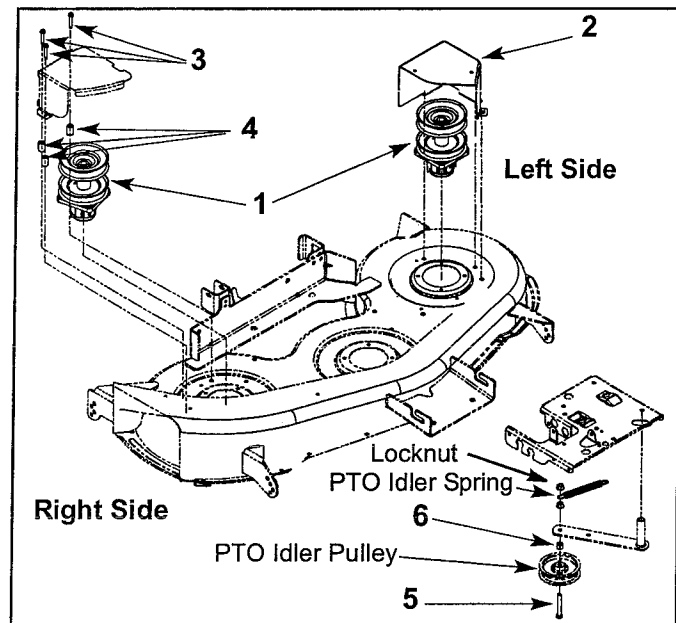

FIGURE 1
- deck install four (4) self tapping screws (Ref. 710-0650) removed in Step 8. Torque each screw to 200-300 In-Lbs.
17. Place the three (3) Spacers, Item 4, over the mounting holes in the deck where the RH Belt Cover will mount.
19. Using the three (3) 1/4-20 x 1.5" Lg. Screws, Item 3, attach the RH Belt Cover. Carefully tighten screws securely.
20. Refer to Figure 1. Remove the top locknut (Ref. 712-0431) from the PTO Idler Pulley Screw using a 3/8" socket. Disconnect the PTO Idler Spring from the idler arm. Remove the second nut from the PTO Idler Pulley Screw. Remove and discard the PTO Idler Pulley screw.